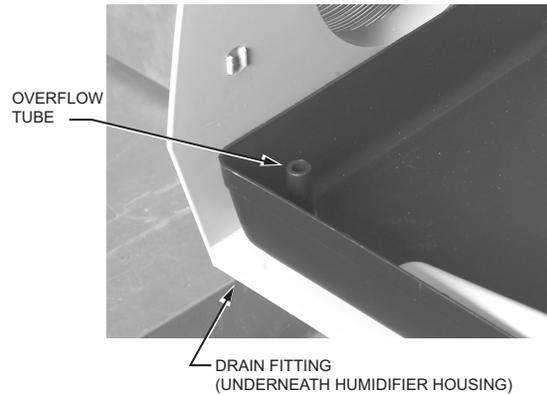

Fig. 28. Installing Water Pan.
9. Place the Water Pan in the Humidifier Housing so Overflow Tube is above previously installed Drain Fitting. See Fig. 28.